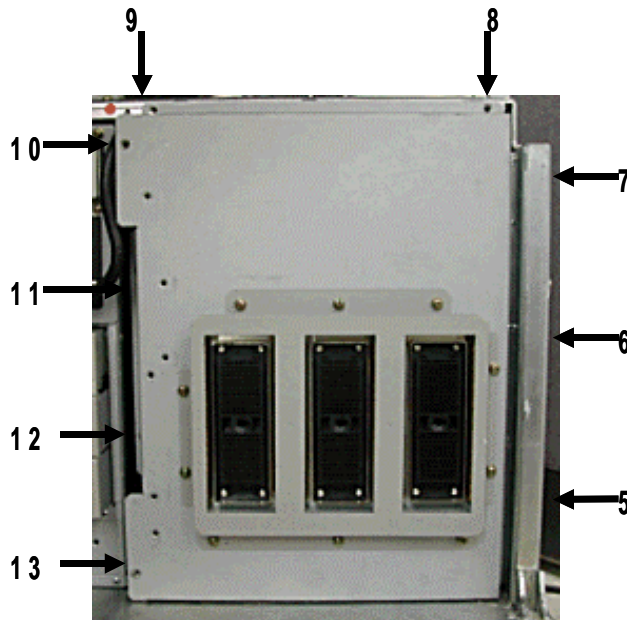

Figure 8-80 Removing the RLY board Cover
4.) Unscrew nine (7) screws (5-13) to open the RLY Board Cover. Refer to Figure 8-80.